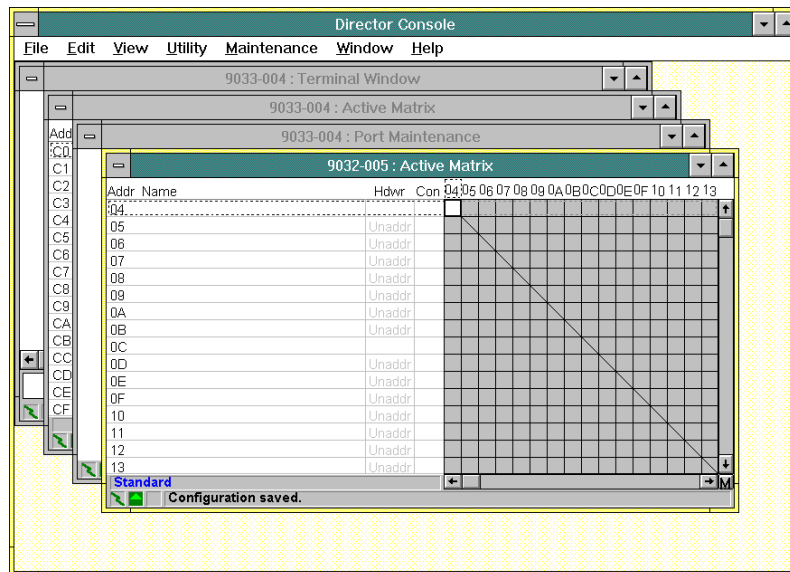

Figure 55. Cascaded Windows
- **Cascade** - This option sizes all document windows to the same size and overlaps the windows (Figure 55). Link Status indicators and title bars for the eight most recently viewed windows are visible.